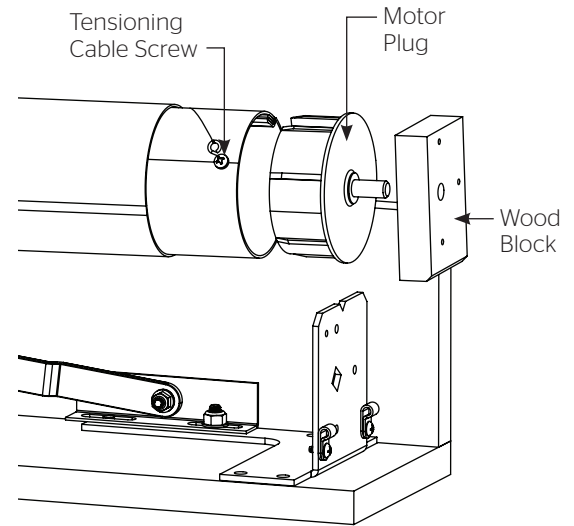

Figure 14
9. Carefully lift the roller above the mounting bracket and remove the Phillips head screw securing the tensioning cable to the roller (Figure 14).
10. Remove the wood block and plug from the end of the roller (Figure 14).